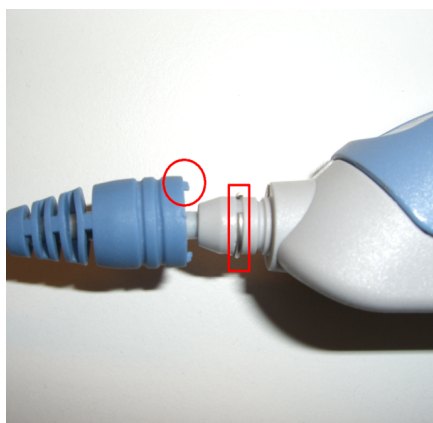

Figure 3-17: Assembling circlip and sleeve
4. Move the circlip on the first slot as shown in Figure 3-17.